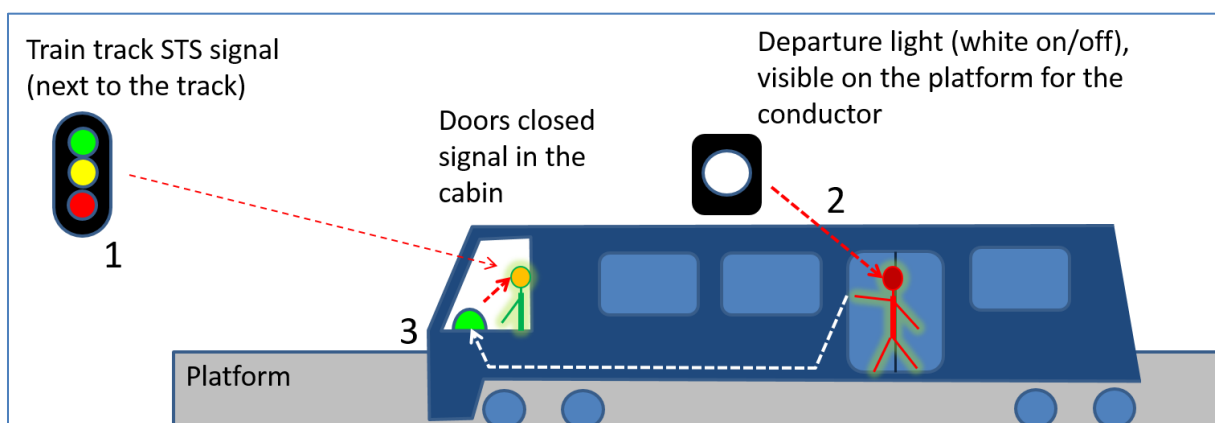

Figure 1: Departure procedure for trains (thanks to Rob Hoitsma for this picture!)
I started this assignment with the mental processing of the knowledge I have about this particular process. That boils down to the following (see Figure 1).
After a train stops alongside the platform, the doors open and the passengers can exit and enter the train. At the end of each platform, a white departure light is present that represents the start of the departure procedure. When the conductor sees the white light (2 in Figure 1), he knows he can start the departure procedure. He is then responsible for the safe and efficient closure of all the doors, the last of which is his door¹.
When all the doors are closed, the train driver is triggered by a bright light in his cabin; the doors closed signal (3 in Figure 1). The train driver then has to check if the train track STS signal² has turned into green (instead of red), indicating that he can safely depart using the track he is on (1 in Figure 1). He can then commence the next leg in his journey. Both the departure light and the train track STS signal are activated by the automatic signaling system which is driven in time by the overall train timetable. Furthermore the conductor uses a departure procedure to conduct his checks just before departure.
- The departure signal has a slightly different activation than was assumed in the first iteration. A separate system activates that signal when the STS signal is turned to green. So almost at the same time, the conductor receives his 'clearance' to start with the departure procedure while the train driver sees a green light. And that is also the reason for the numbering in Figure 1.